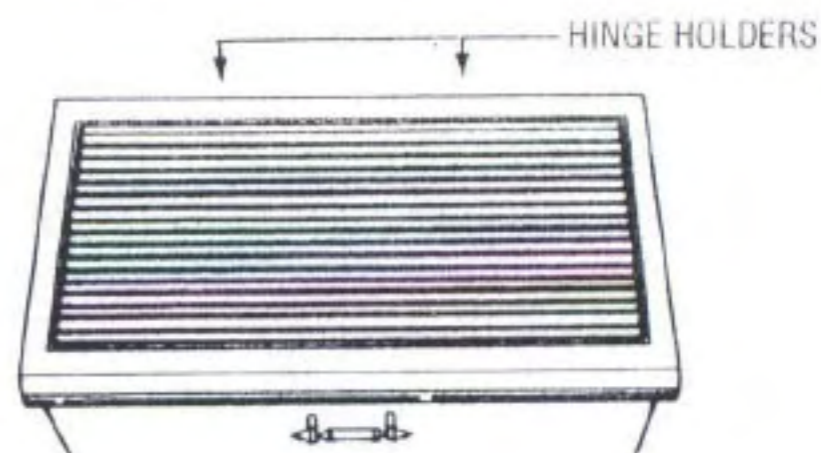

Figure 11
5. Remove the lid completely from the unit by closing and lifting up from hinge holders (Figure 11).
3. Remove the lid completely from the unit by closing and lifting up from the hinge holders. (Figure 11.)